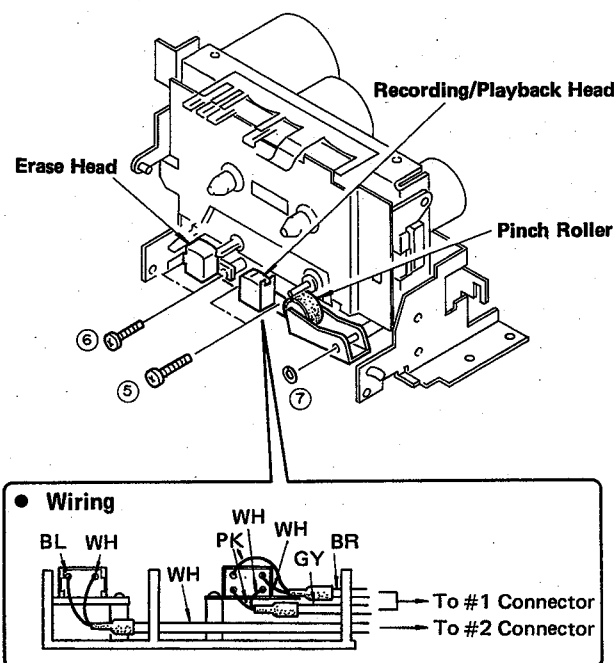

Fig. 3
- a. Remove 2 screws (⑤) in Fig. 3 and then remove the Recording/Playback Head.
b. Remove 2 screws (⑥) in Fig. 3 and then remove the Erase Head.
c. Remove Washer (⑦) in Fig. 3 and then remove the Pinch Roller.